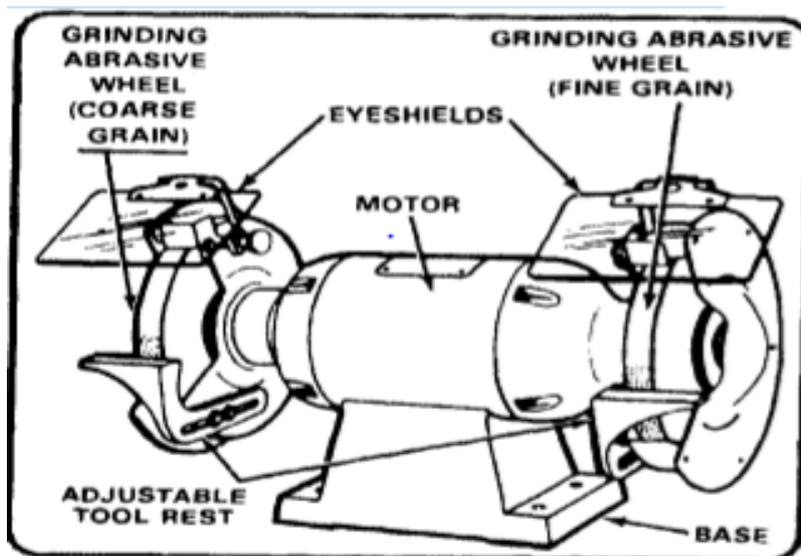

Figure21. Bench type utility grinding machine
- **TOOL POST GRINDING MACHINE:** The tool post grinding machine, see Figure 21, is a machine tool attachment designed to mount to the tool post of engine lathes. It is used for internal and external grinding of cylindrical workpieces. Refer to Chapter 7 for a description of this machine.